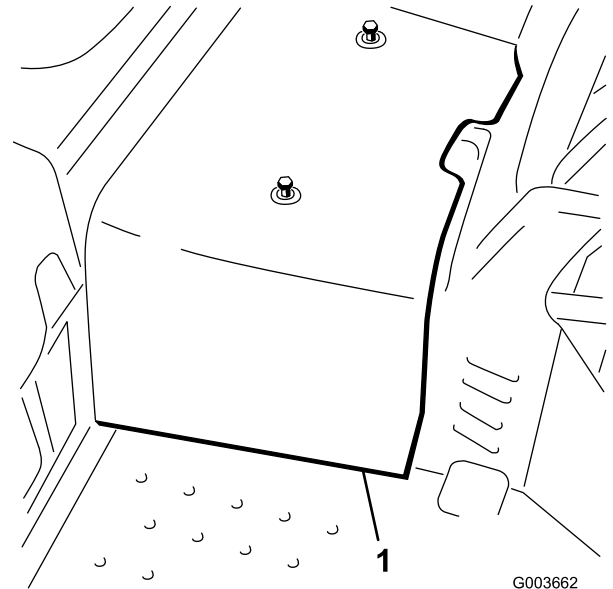

Figure 3
5. Disconnect and remove the center shroud from the frame (Figure 3).